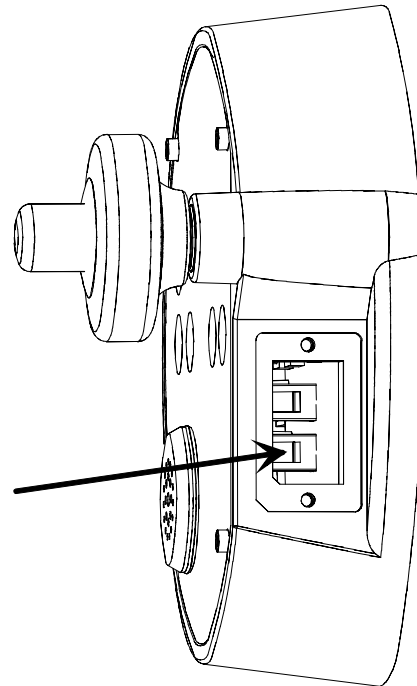

Figure 9-1
- ⇒ Measure the resistance between the ground (-) terminal (as shown on Figure 9-1) of the electronic circuit and the tube of the sensing probe; the resistance should be less than 10  $\Omega$ . If it is higher, the steel tape might be broken or the connection between the sensing probe circuit and the sensing probe tube might be interrupted.